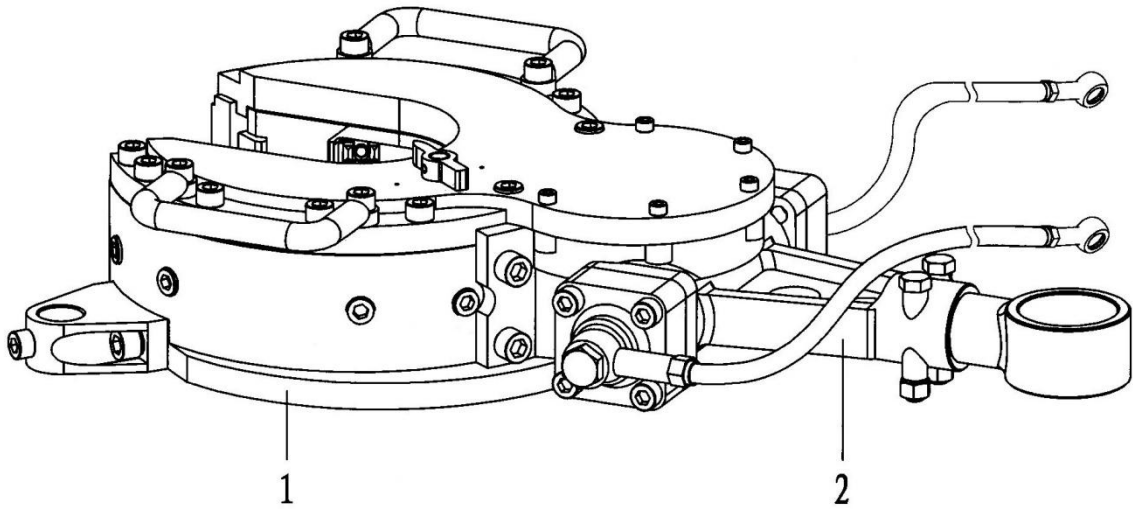

Fig 13
9.9 Backup tong and parts list(Fig.13,Table9)